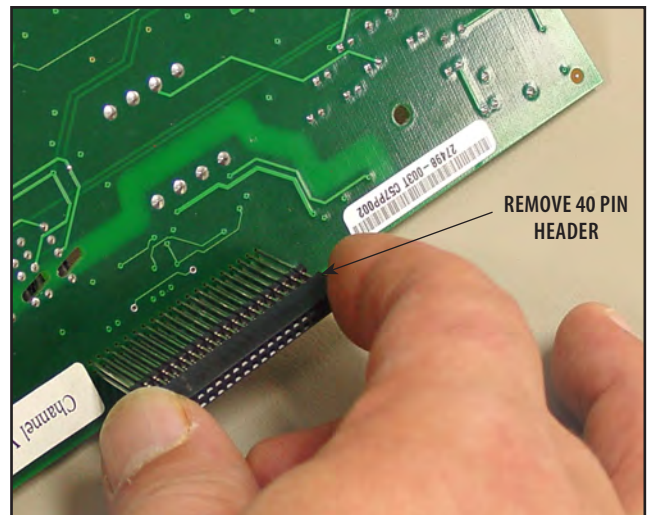

FIGURE 6.13
4. Remove the 40 Pin Header from the back of the Channel 2 Stim Board. **See Figure 6.13.**
5. Install 40 Pin Header to back of new Channel 2 Stim Board. Make certain it is completely seated against board. **See Figure 6.13.**